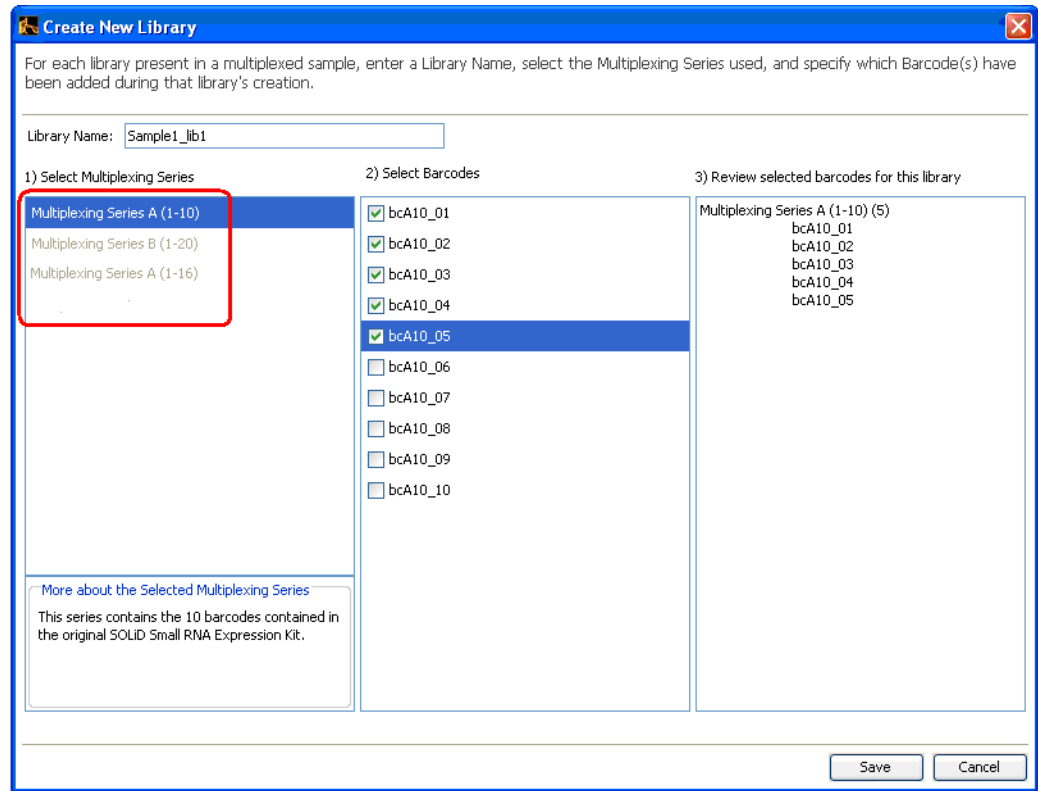

Figure 52 Enter the information for the libraries in the sample.
5. Enter information for the first library present in the sample (see Figure 52 on page 59):